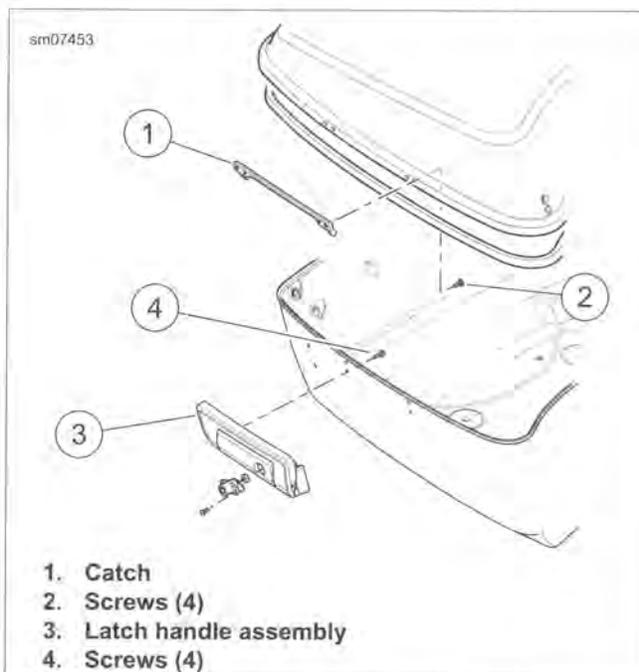

Figure 2-124. Latch Handle and Catch
2. See Figure 2-124. Remove screws (4).
3. Remove latch handle and lock assembly (3).
4. Remove screws (2) securing catch (1) to lid. Remove catch.
1. See Figure 2-124. Secure catch to lid with screws (2). Tighten to 25-35 in-lbs (2.8-3.9 Nm).
2. Hold latch handle in place and secure with screws (4). Tighten to 25-35 in-lbs (2.8-3.9 Nm).